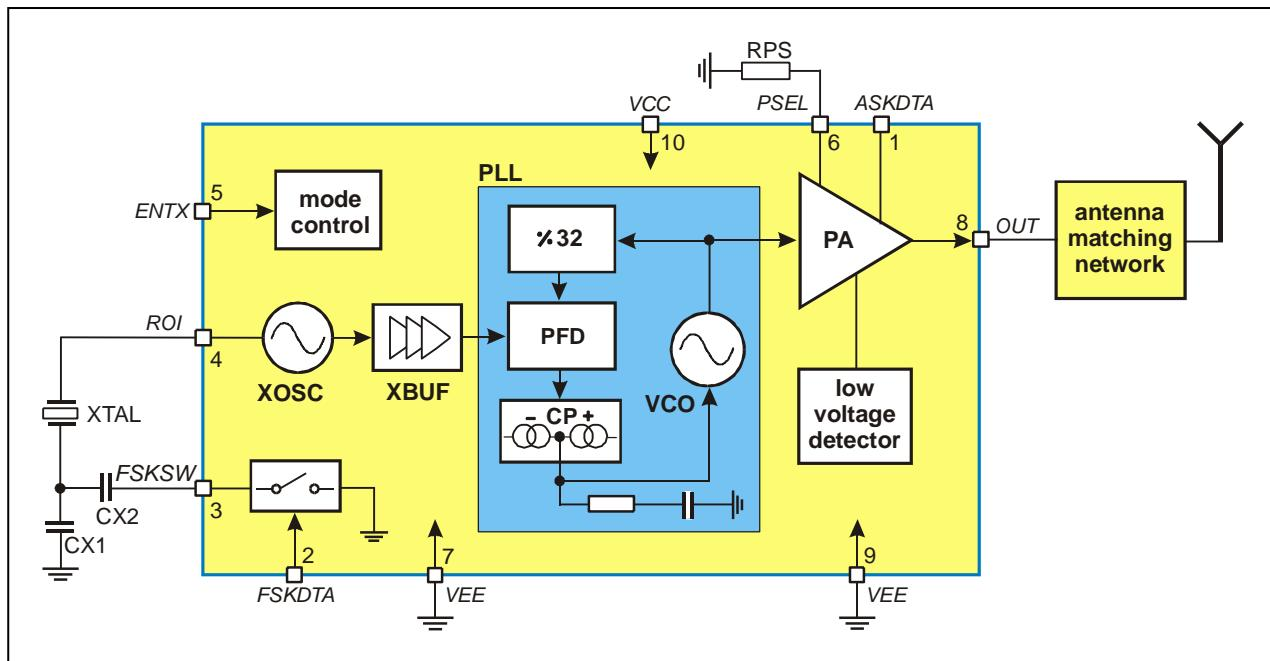

Fig. 1: Block diagram with external components
As depicted in Fig.1, the TH72005 transmitter consists of a fully integrated voltage-controlled oscillator (VCO), a divide-by-32 divider (div32), a phase-frequency detector (PFD) and a charge pump (CP). An internal loop filter determines the dynamic behavior of the PLL and suppresses reference spurious signals. A Colpitts crystal oscillator (XOSC) is used as the reference oscillator of a phase-locked loop (PLL) synthesizer. The VCO's output signal feeds the power amplifier (PA). The RF signal power P_{out} can be adjusted in four steps from $P_{out} = -12$ dBm to $+11$ dBm, either by changing the value of resistor RPS or by varying the voltage V_{PS} at pin PSEL. The open-collector output (OUT) can be used either to directly drive a loop antenna or to be matched to a 50Ω load. Bandgap biasing ensures stable operation of the IC at a power supply range of 1.95 V to 5.5 V.